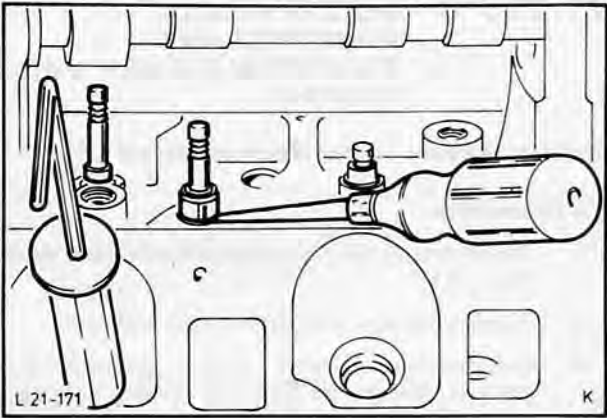

Fig. 188. Remove valve stem seal using screwdriver
- Remove valve spring retainer and valve spring. Prise valve stem seal off cylinder head with screwdriver, Fig. 188.